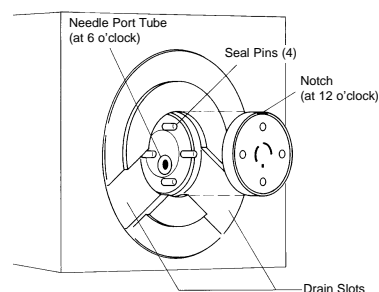

Fig. 16. Correct orientation of the rotor seal of a front loading Model 9126.
- Line up the rotor seal as shown in Figure 16. The rotor seal slots face the stator.